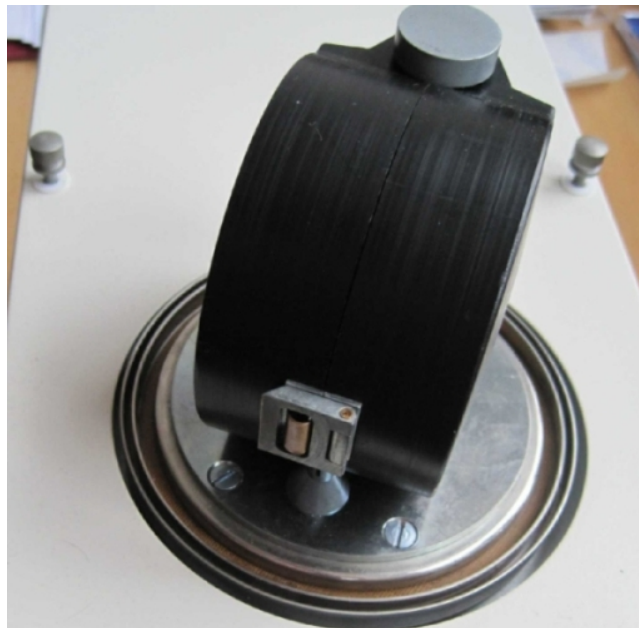

Figure 1: Measuring coils of JR6
1. Check the gap between both sides of measuring coils. There should not be any visible space when you close both side of the coils, as seen in Figure 1.